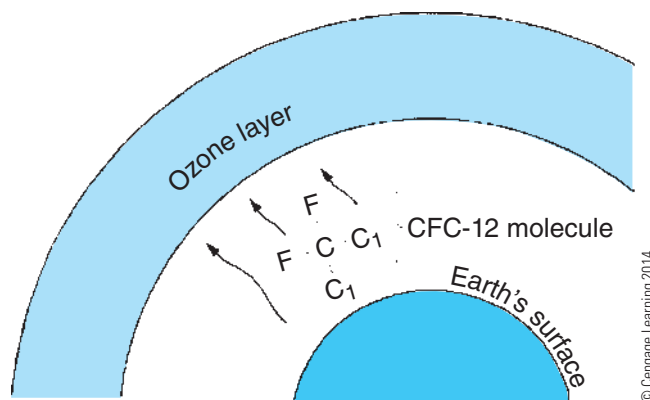

Figure 2-2 The CFC molecules gradually float up to the stratosphere, where they damage the ozone layer.
The ozone layer is formed by **ultraviolet (UV)** light from the sun acting on oxygen molecules. The ozone layer is often referred to as a protective layer because it absorbs and scatters ultraviolet light from the sun, preventing some of the harmful ultraviolet light from reaching the earth's surface (**Figure 2-2**).